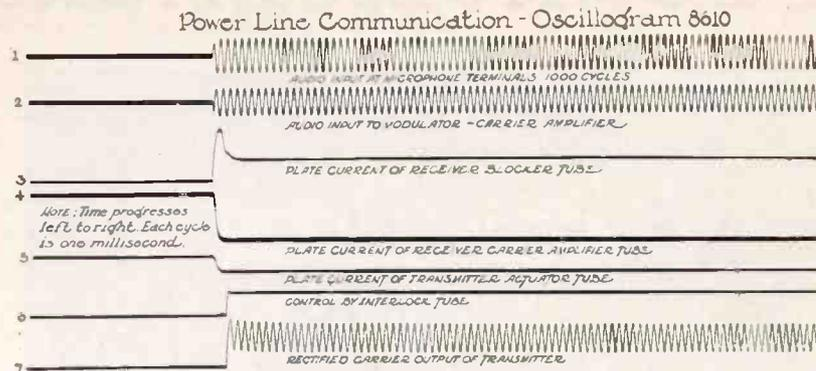
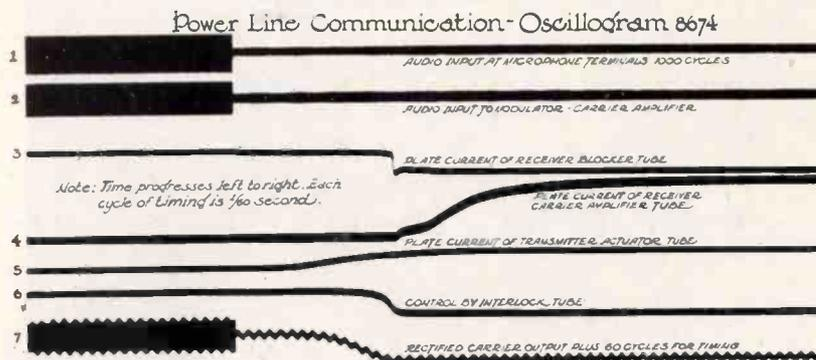

Fig. 3A—Oscillograms illustrating application of input tone
Fig. 3B—Oscillogram showing stopping of input tone
As shown in Fig. 3A, g_a , $g_b = g_c$ and g_c are the branch conductances of the symmetrical π , with the dissymmetrical π branch conductances, g_a' , g_b' , and g_c' given by Eq. (3) shown in Fig. 3B.